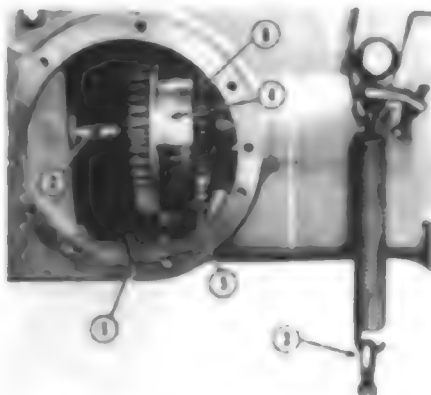
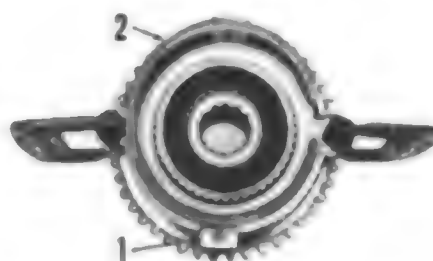

Fig. 162 - Roll pin to be removed from pto clutch to pull the 1000 rpm output shaft (dual speed) or lower pto drive shaft (single speed).
Fig. 164 - View showing "C" clamps used to compress the backing plate ring and springs for removal of snap ring.
128. To remove pto clutch, drain the rear main frame, then remove the side pto cover. Refer to Fig. 162 and drive roll pin (1) from the clutch and 1000 rpm output shaft (dual speed) or lower pto drive shaft (single speed). Remove the lower bearing flange on rear of main frame. Refer to Fig. 163 and remove shaft (10). If tractor is not equipped with a 1000 rpm shaft that protrudes, there will be a lower pto drive shaft located in the same position as the 1000 rpm shaft. Lower drive shaft will not protrude and will have a bearing cap. After the 1000 rpm shaft or lower drive shaft is pulled rearward, the pto clutch can be removed. Refer to Fig. 164 and using a